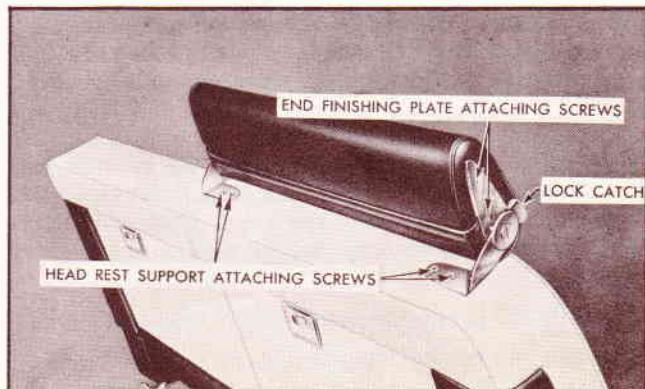

Fig. 5 Reclining Seat Back Head Rest Removal
1. Raise head rest to the rest position, as shown in Fig. 5.
2. Remove screws securing head rest supports to seat back assembly, Fig. 5 and remove assembly from seat back.
3. To remove head rest inner support assembly or head rest outer support and lock assembly, remove head rest end finishing plate attaching screws, Fig. 5 and remove assembly from head rest.
2. At end of head rest from which support is being removed, remove head rest end finishing plate attaching screws, Fig. 5 and remove support assembly from head rest.